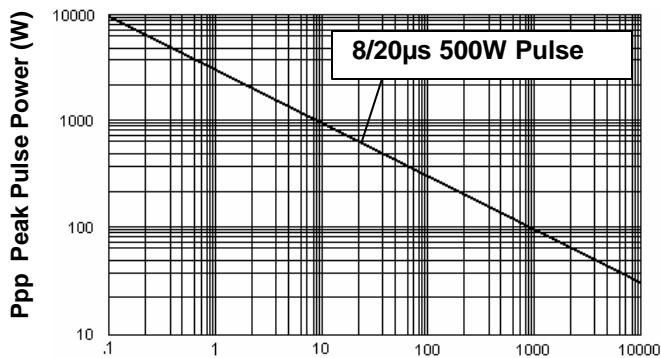

Figure 1
- Peak Pulse Power: 500 watts (8/20 μs, Figure 1 and Figure 2)